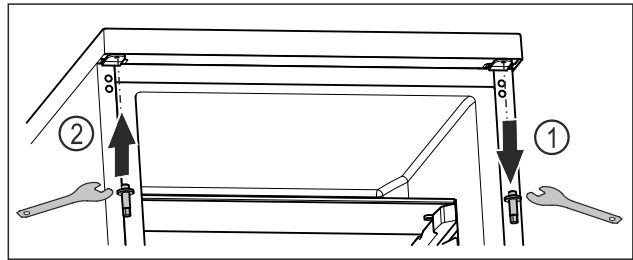

Fig. 19
- ▶ Unscrew the upper bolt with an Allen key. Fig. 19 (1)
- ▶ Tighten the bolt on the opposite side with an Allen key. Fig. 19 (2)